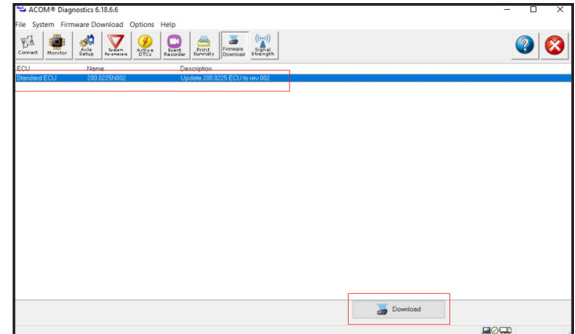

Figure 6 – Download to Start Update Process
4. To start the update, select the ECU as shown in *Figure 6*. This will enable the *Download* icon on the bottom of the window. Select the *Download* icon to start the update process. The process should then begin (See *Figure 7*) and the ECU firmware will be updated.